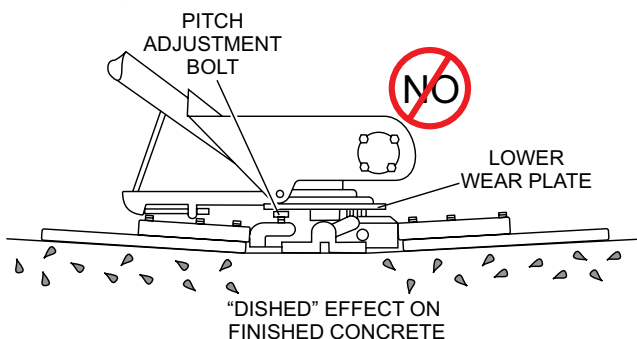

Figure 50. Incorrect Spider Plate Alignment
- Figure 50 illustrates, “incorrect alignment”, worn spider bushings or bent trowel arms.